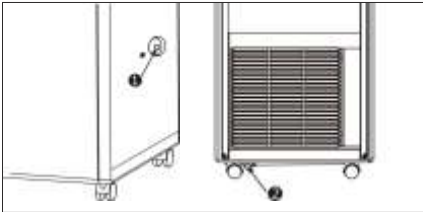

Fig. 10
When the condensate collection tank is filled up, water needs to be drained, otherwise the unit will not operate. Condensate should be drained by opening the lower plug at the device's base (Fig. 10 pos. 2).
- A hole designed for continuous condensate removal in the center of the device (Fig. 10 pos. 1) can be used for continuous condensate removal under conditions of increased humidity inside a room.
1. When the unit is in cooling mode, it is not necessary to install the condensate drainage pipe since condensate evaporates automatically. Make sure that when the unit is operating, the rubber plug of the drainage hose is securely fixed (see Fig. 10).
2. In heating mode, remove the rubber plug (2) of the drainage hose (Fig. 10), install the respective drainage hose to improve heating efficiency.
3. In dehumidification mode, remove the rubber plug (2) of the drainage hose, install the respective drainage hose.